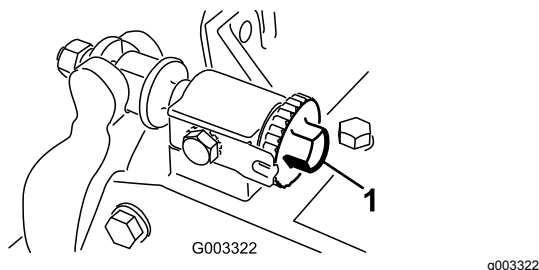

Figure 26
1. Loosen reel to bedknife contact by turning the bedknife adjusting knobs (Figure 26) counterclockwise until no contact exists.